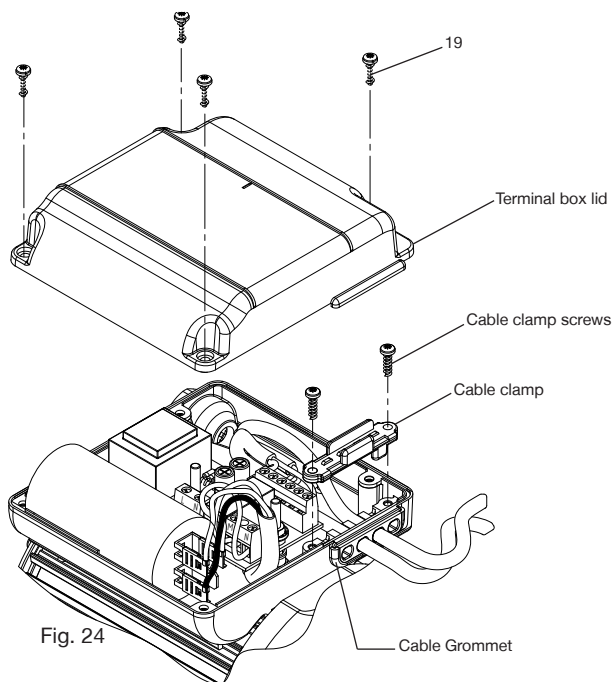

Fig. 24
- Remove four screws (item 19) and carefully remove terminal box lid (Fig. 24).
- **IMPORTANT** – take note of the cable clamp orientation before removal, as reassembly in the original factory orientation is essential. Remove two screws and cable clamp, this allows any reed or pressure switch cables to be removed from the terminal box (Fig. 24).